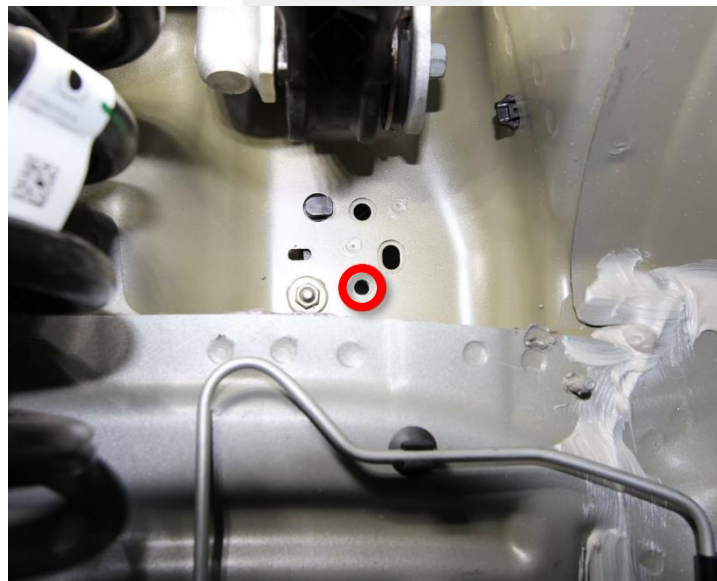

Figure 3
6. Drill out the lowest rivet location with a 3/16" (4.76 mm) bit, and then drill out the same rivet location with a 17/64" (2.77 mm) bit (Figure 3).